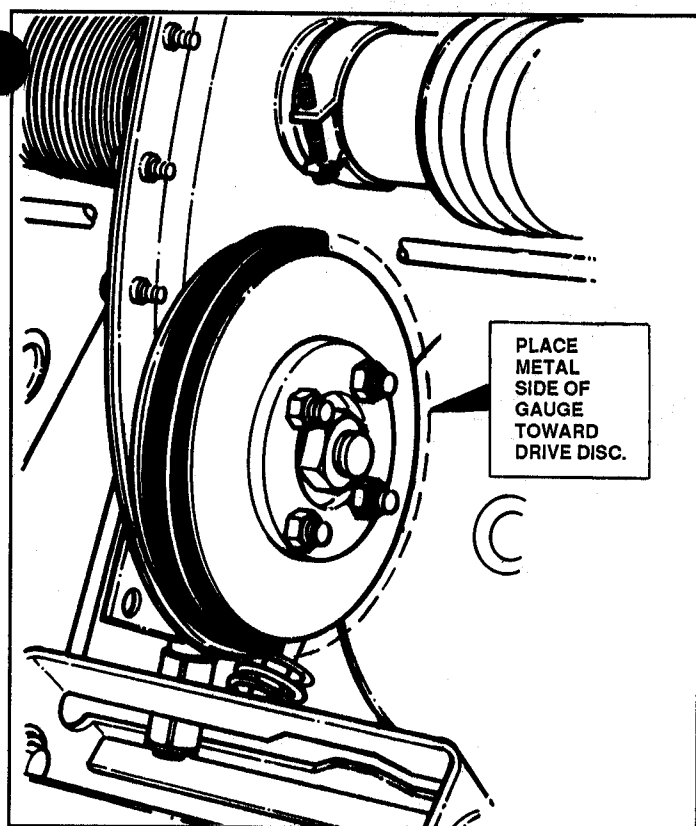

FIGURE 4.6
- D. Install adjusting gauge with metal side toward drive wheel. See Figure 4.6.